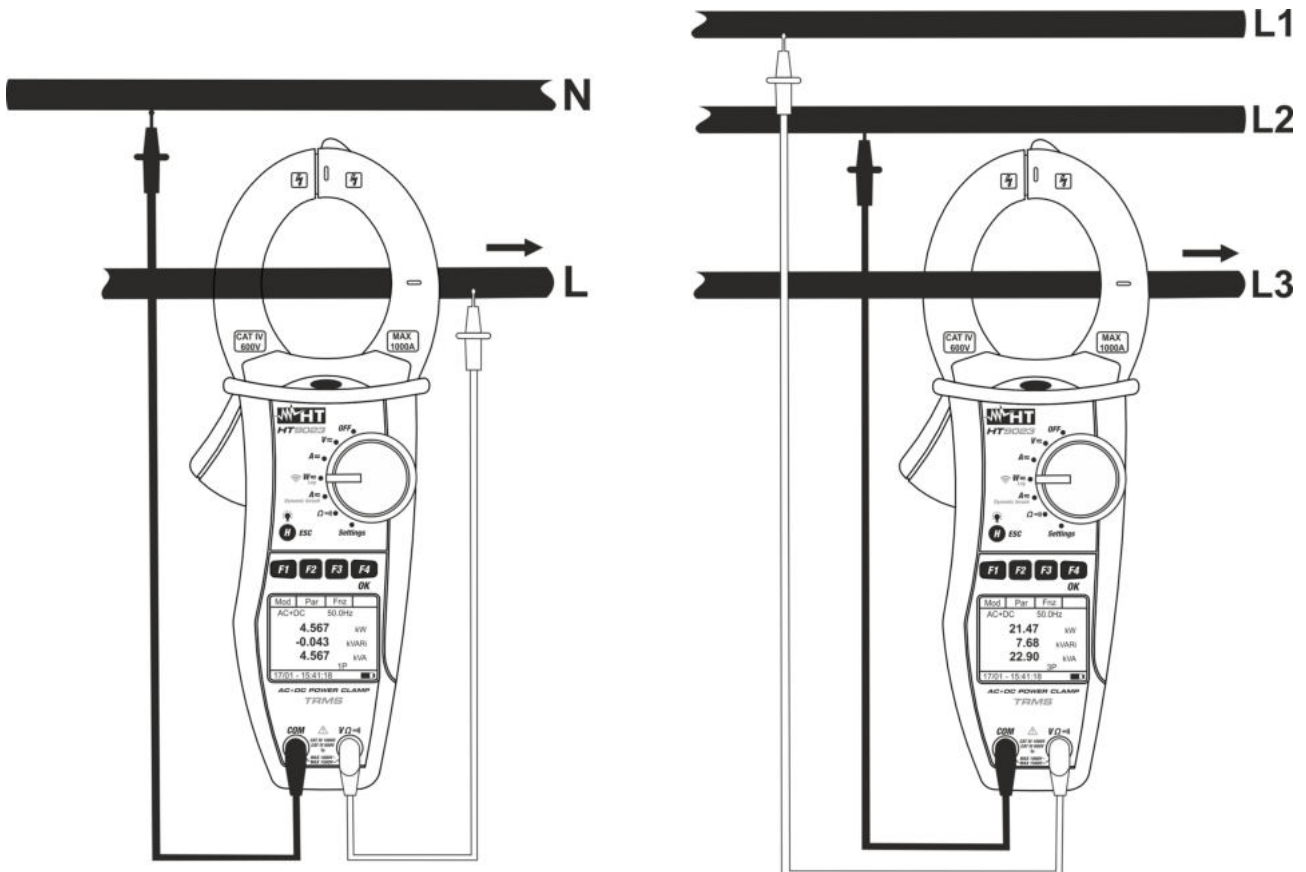

Fig. 13: AC/AC+DC power measure on Single phase and balanced Three phase systems
6. Connect red cable to input lead **VΩⓂ** and black cable to input lead **COM** then perform the connection as indicated in Fig. 13 depending on the type of system under test. Put the phase cable into the clamp jaws respecting the direction of current indicated by the arrow (see Fig. 13). Connect the cable to the middle of the clamp jaws, in order to get accurate measurements. Use the marks as a reference (see Fig. 2)